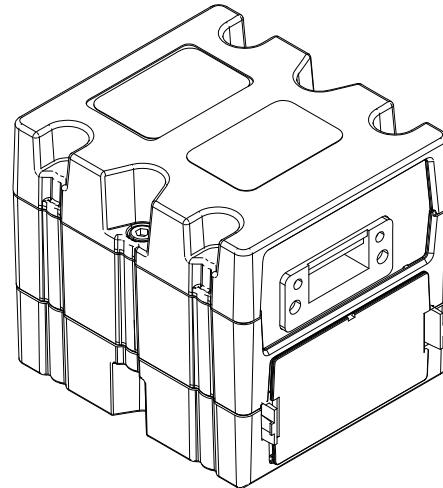

FIG. 51
6. If Used, connect the Ethernet, DeviceNet, or Profibus cable to the CGM as applicable. Connect the other end of the cable to the FieldBus device. See Fig. 51.